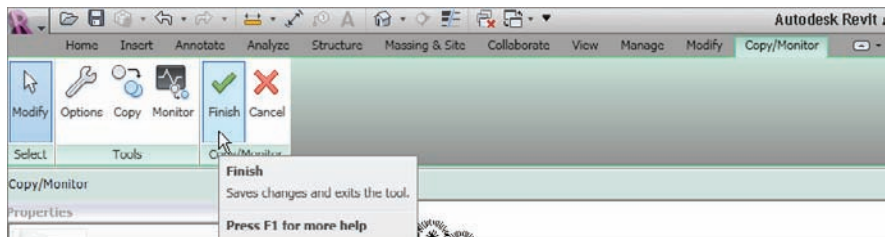

FIGURE 20.11 Clicking Finish
- On the Copy/Monitor panel of the Copy/Monitor tab, click **Finish**, as shown in Figure 20.11.